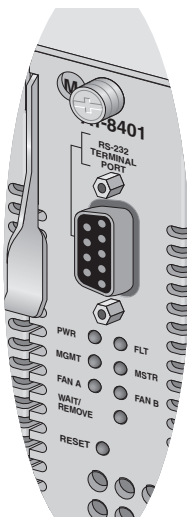

Figure 4. AT-8401 Management Card LEDs
4. Examine the WAIT/REMOVE LED on the AT-8401 management card. See Figure 4 below. If the LED is a steady amber, you cannot safely install a line card. Wait approximately 20 seconds and the WAIT/REMOVE LED will turn a steady green. When the WAIT/REMOVE LED is a steady green, it is safe to install a line card.